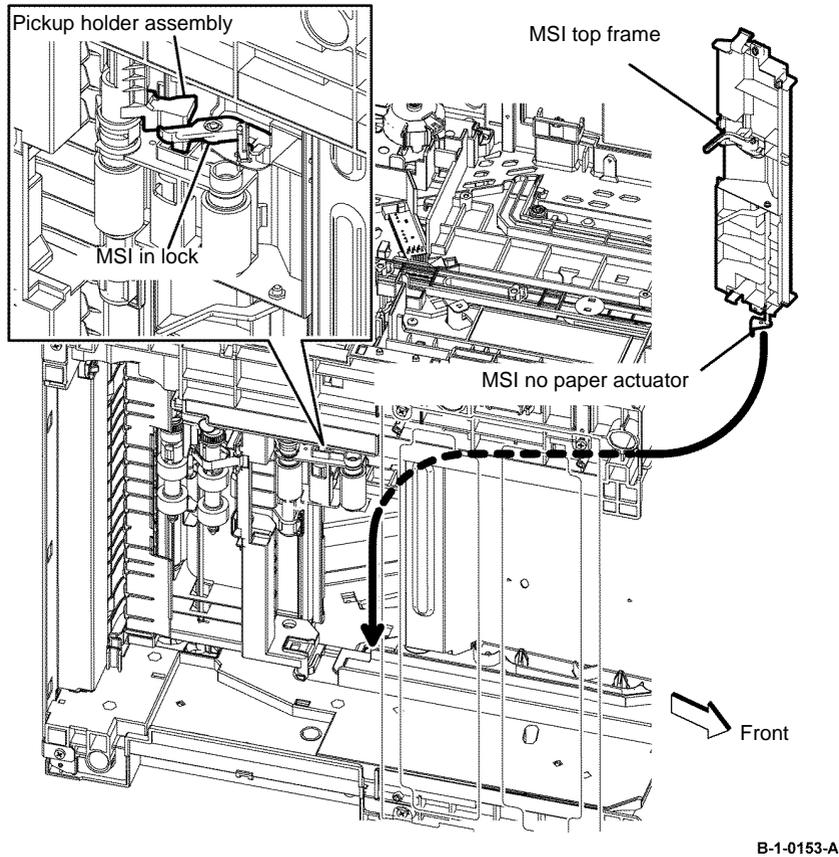

Figure 12 MSI top frame installation
- When installing the MSI top frame, ensure the MSI no paper actuator, coupled with the MSI top frame, fits into the hole on the printer, Figure 12.